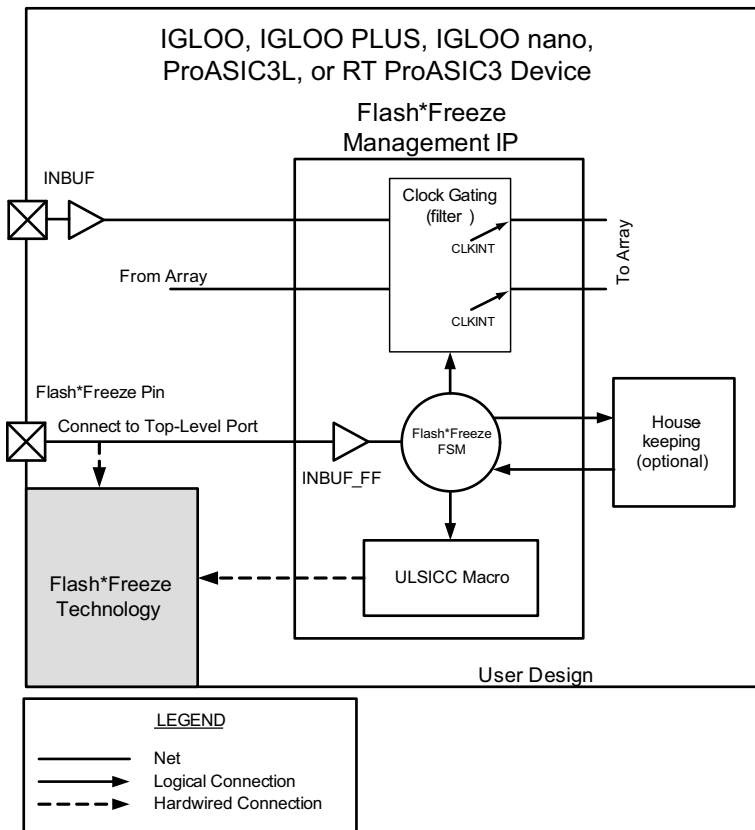
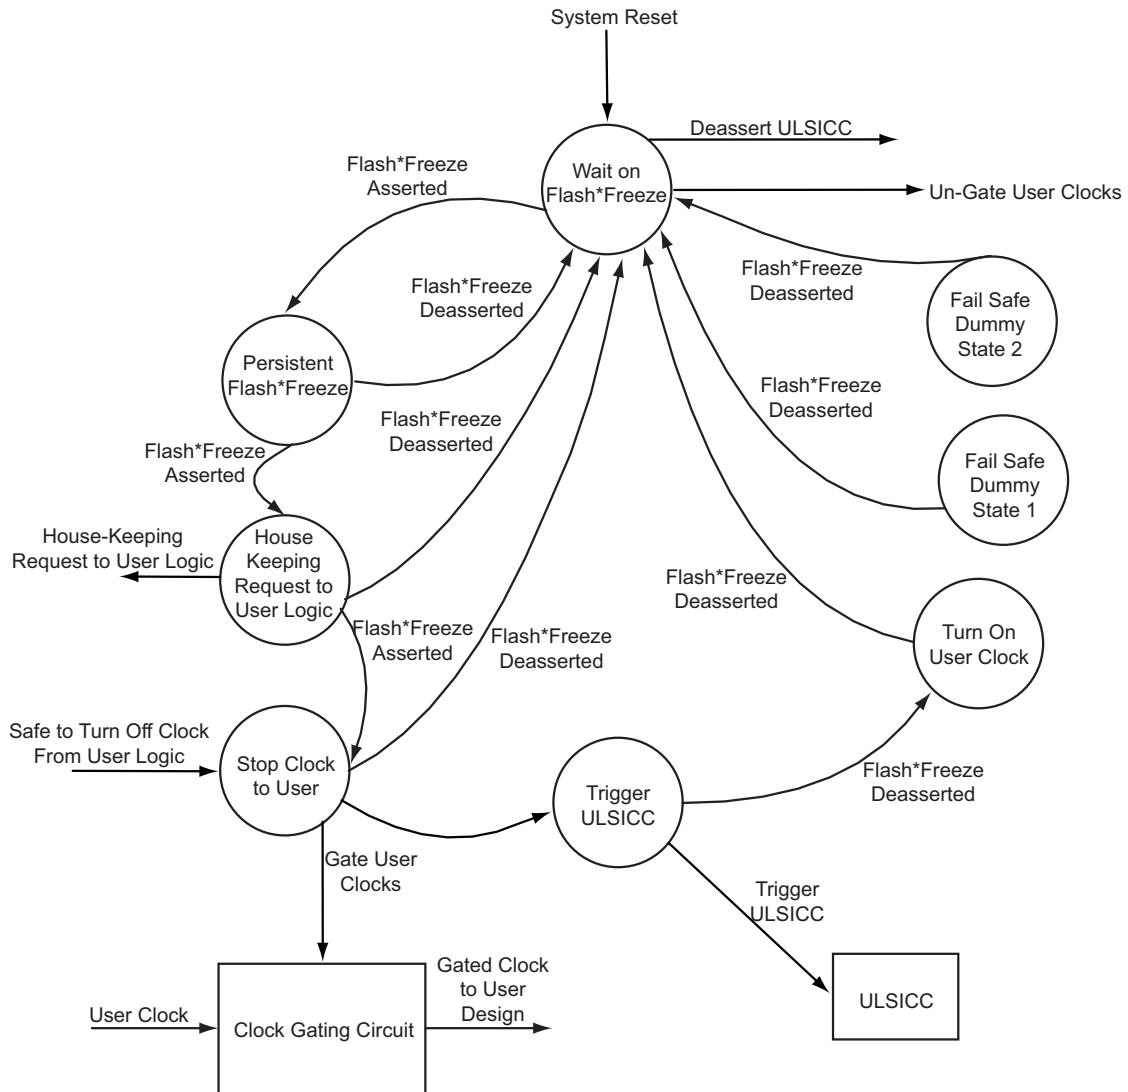

Figure 2-10 • Flash*Freeze Management IP Block Diagram
Figure 2-11 • FSM State Diagram
The Flash*Freeze management IP is comprised of three blocks: the Flash*Freeze finite state machine (FSM), the clock gating (filter) block, and the ULSICC macro, as shown in Figure 2-10.
The Flash*Freeze FSM block is a simple, robust, fully encoded 3-bit state machine that ensures clean entrance to and exit from Flash*Freeze mode by controlling activities of the clock gating, ULSICC, and optional housekeeping blocks. The state diagram for the FSM is shown in Figure 2-11 on page 38. In normal operation, the state machine waits for Flash*Freeze pin assertion, and upon detection of a request, it waits for a short period of time to ensure the assertion persists; then it asserts WAIT_HOUSEKEEPING (active High) synchronous to the user's designated system clock. This flag can be used by user logic to perform any needed shutdown processes prior to entering Flash*Freeze mode, such as storing data into SRAM, notifying other system components of the request, or timing/validating the Flash*Freeze request. The FSM also asserts Flash_Freeze_Enabled whenever the device enters Flash*Freeze mode. This occurs after all housekeeping and clock gating functions have completed. The Flash_Freeze_Enabled signal remains asserted, even during Flash*Freeze mode, until the Flash*Freeze pin is deasserted. Use the Flash_Freeze_Enabled signal to drive any logic in the design that needs to be in a particular state during Flash*Freeze mode. The DONE_HOUSEKEEPING (active High) signal should be asserted to notify the FSM when all the housekeeping tasks are completed. If the user chooses not to use housekeeping, the Flash*Freeze management IP core generator in Libero SoC will connect WAIT_HOUSEKEEPING to DONE_HOUSEKEEPING.
- When the INBUF_FF macro is used, the FF pin will establish a hardwired connection to the Flash*Freeze technology circuit in the device, as shown in Figure 2-1 on page 25, Figure 2-3 on page 27, and Figure 2-10 on page 37, and described in the "Flash*Freeze Type 1: Control by Dedicated Flash*Freeze Pin" section on page 24.
The User Low Static ICC (ULSICC) macro allows the FPGA core to access the Flash*Freeze Technology block so that entering and exiting Flash*Freeze mode can be controlled by the user's design. The ULSICC macro enables a hard block with an available LSICC input port, as shown in Figure 2-3 on page 27 and Figure 2-10 on page 37. Design rules for the ULSICC macro are as follows:
Significant changes were made to this document to support Libero IDE v8.4 and later functionality. RT ProASIC3 device support information is new. In addition to the other major changes, the following tables and figures were updated or are new: Figure 2-3 • Flash*Freeze Mode Type 2 – Controlled by Flash*Freeze Pin and Internal Logic (LSICC signal) – updated Figure 2-5 • Narrow Clock Pulses During Flash*Freeze Entrance and Exit – new Figure 2-10 • Flash*Freeze Management IP Block Diagram – new Figure 2-11 • FSM State Diagram – new Table 2-6 • IGLOO nano and IGLOO PLUS Flash*Freeze Mode (type 1 and type 2)—I/O Pad State – updated Please review the entire document carefully.	27 30 37 38 29